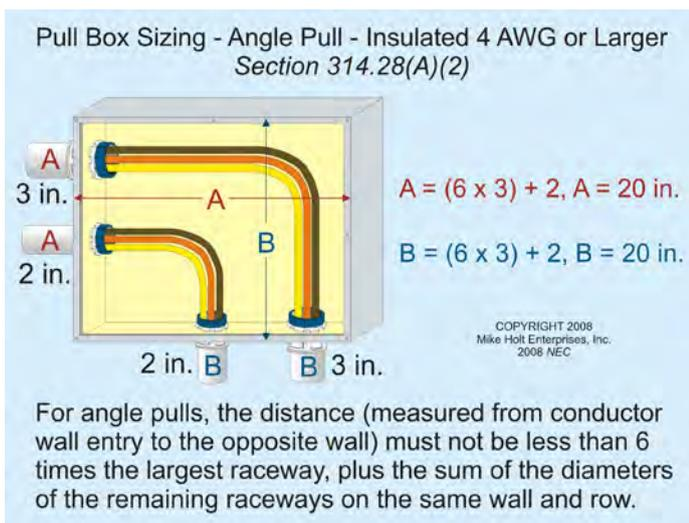

Figure 314-21
(2) Angle Pulls, U Pulls, or Splices.
- Angle Pulls. The distance from the raceway entry to the opposite wall must not be less than six times the trade size of the largest raceway, plus the sum of the trade sizes of the remaining raceways on the same wall and row. **Figure 314-21**